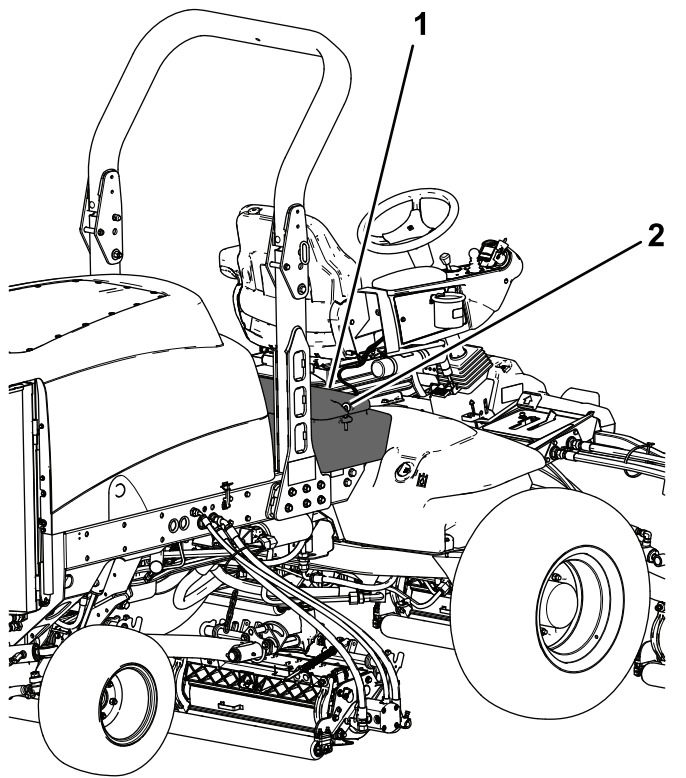

Figure 83
2. Unlatch and raise the operator's console panel (Figure 83).